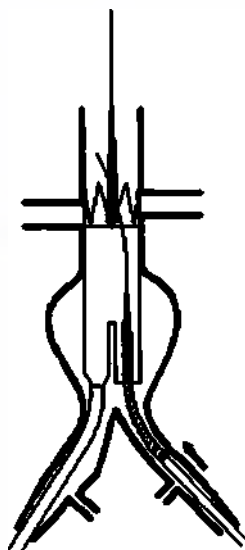

Fig. 10 Introduction of the cuff Stent Graft with Delivery System
- Insert the cuff stent graft with delivery system over guidewire into the short branch of the AAA stent graft. Align the radiopaque marker on the cuff stent with the radiopaque marker on the short branch of the AAA Stent Graft. Ensure that the radiopaque “O-shaped” marker on the cuff stent coincide with the “e-shaped” marker on the short branch of the AAA Stent Graft (Fig. 10)